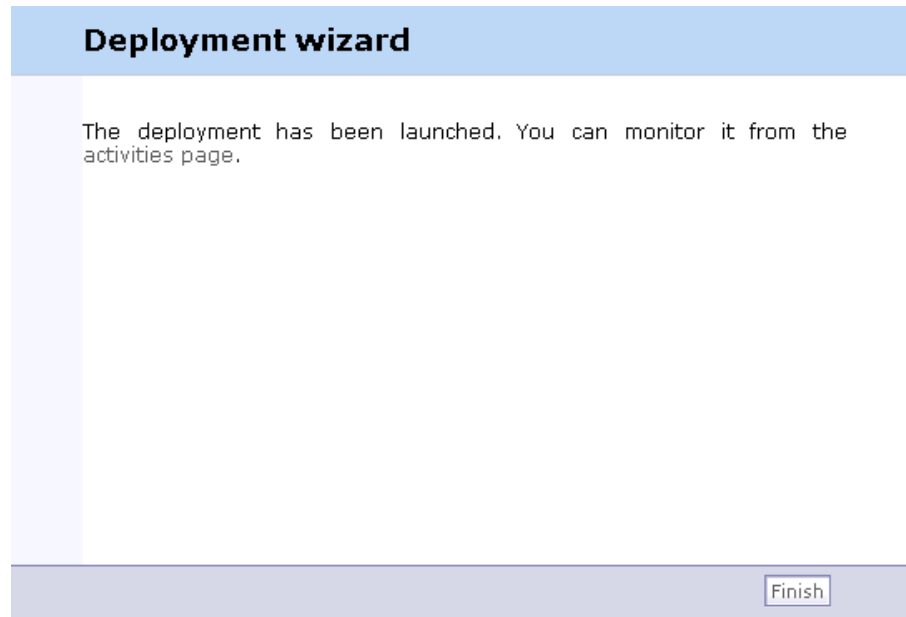

Figure 3-23 Finishing the deployment wizard
7. Accept the remaining defaults and click Finish to Start the deployment as shown in Figure 3-23.